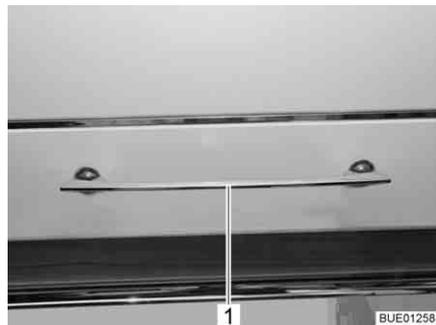
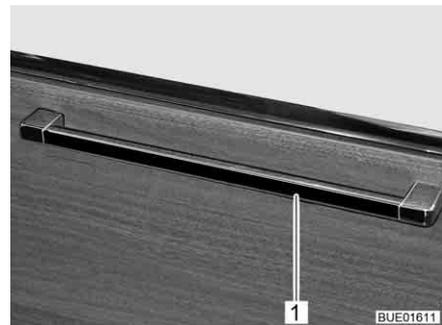

Fig. 42 Furniture flap with release handle
Fig. 43 Furniture flap with release handle (alternative)
- Press the release handle (Fig. 42,1 or Fig. 43,1) upwards, to the side or downwards depending on the fitted position and hold it down.